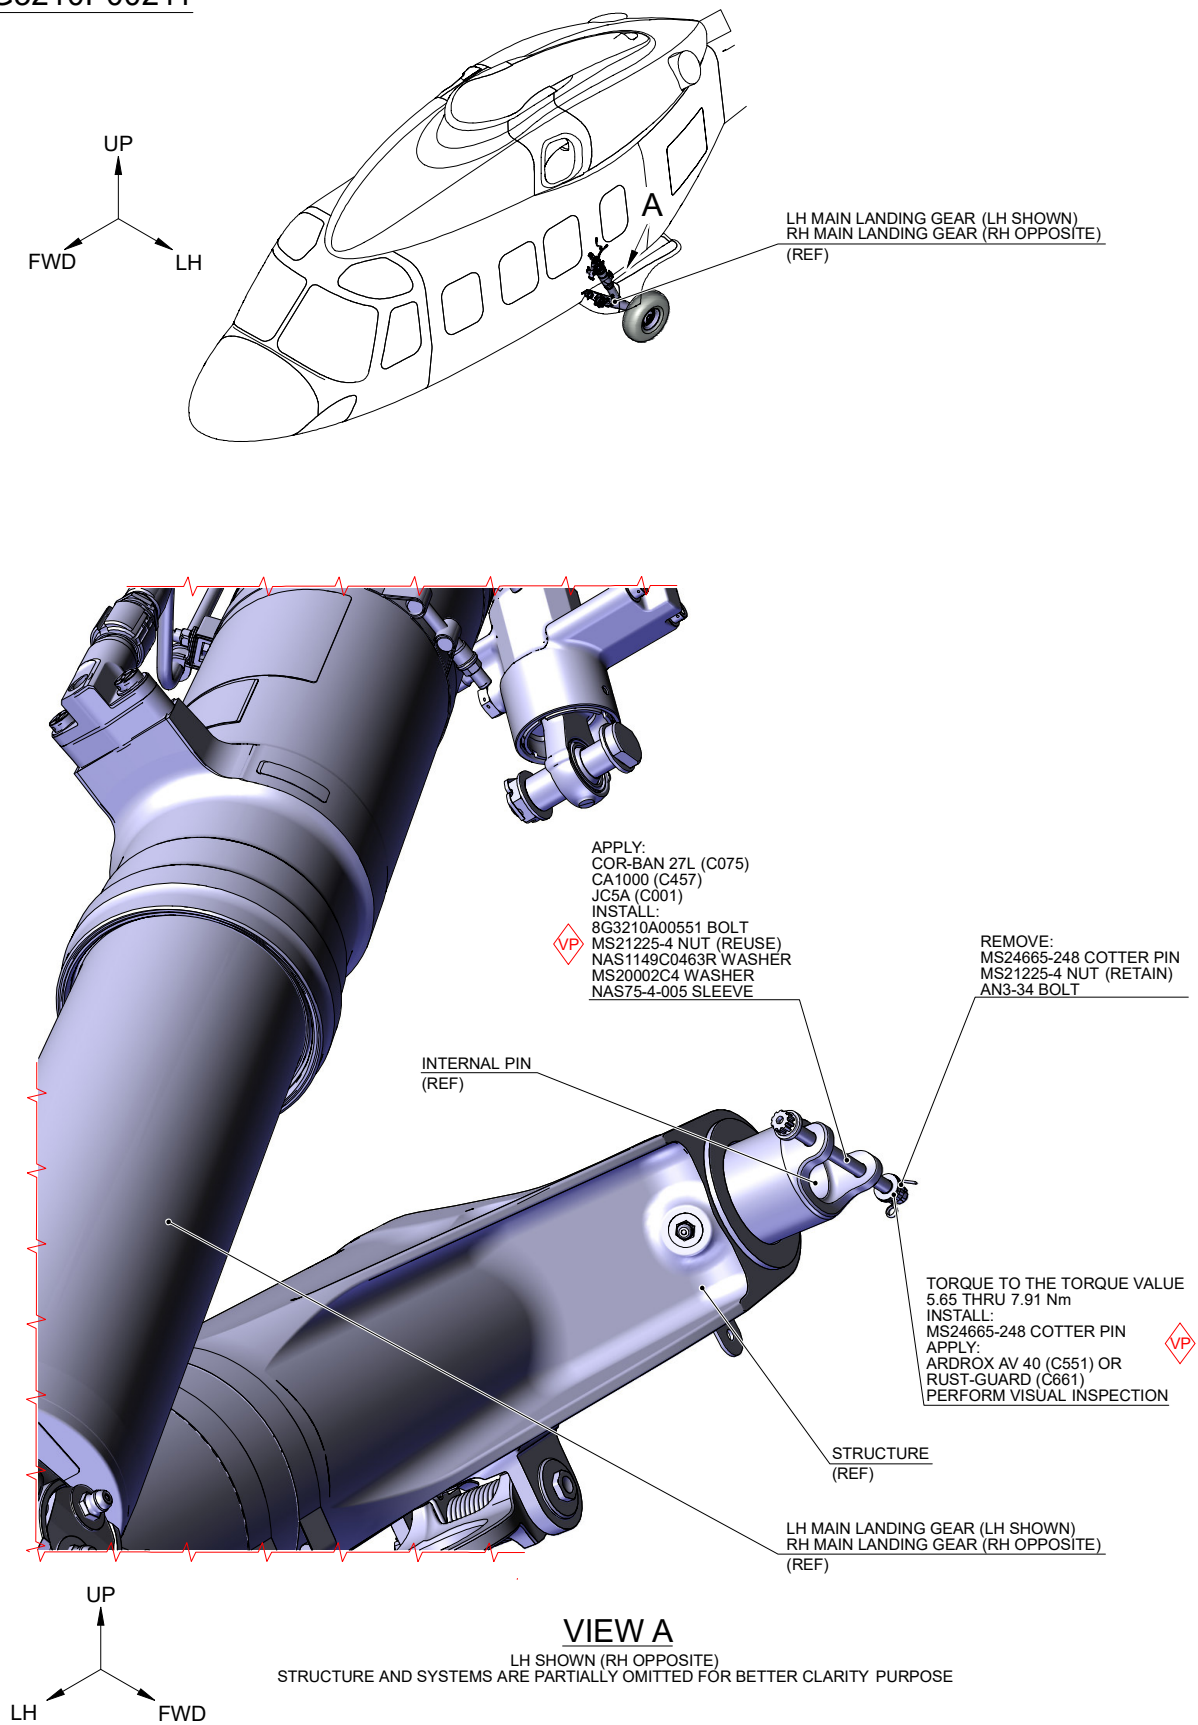

Figure 1
2. In accordance with AMP DM 89-A-00-20-00-00A-120A-A and with reference to Figure 1, gain access to the area affected and perform the “MLG bolt trailing arm retromod” P/N 8G3210P00211 as described in the following procedure:
- 2.1 With reference to Figure 1 view A and in accordance with the applicable steps of AMP DM 89-A-32-11-01-00A-520A-A, remove the cotter pin P/N MS24665-248, the nut P/N MS21225-4 and the bolt P/N AN3-34 from the LH MLG. Discard the bolt P/N AN3-34 and keep nut P/N MS21225-4 for further use.
- 2.2 With reference to Figure 1 view A and in accordance with AMP DM 89-A-32-11-01-00A-720A-A, perform the following procedure:
- 2.2.1 With reference to Figure 1, apply the corrosion preventive compound Cor-ban 27L (C075) or the corrosion inhibitive compound CA1000 (C457) or the corrosion preventive compound JC5A (C001) under the head of the bolt P/N 8G3210A00551.
- 2.2.2 With reference to Figure 1 view A, install the bolt P/N 8G3210A00551, the sleeve P/N NAS75-4-005, the washer P/N MS20002C4, the washer P/N NAS1149C0463R and the existing nut P/N MS21225-4 that attach the internal pin to the structure.
- 2.2.3 With reference to Figure 1 view A, tighten the nut P/N MS21225-4 to 5.65 thru 7.91 Nm (50 thru 70 lbf in). Install the new cotter pin P/N MS24665-248.
- 2.2.4 With reference to Figure 1 view A, apply the corrosion inhibitor Ardrox Av40 (C551) or corrosion inhibitor (C661) to the exposed surface of the hardware previously installed.
- 2.3 With reference to Figure 1 view A and in accordance with the applicable steps of AMP DM 89-A-32-12-01-00A-520A-A, remove the cotter pin P/N MS24665-248, the nut P/N MS21225-4 and the bolt P/N AN3-34 from the RH MLG. Discard the bolt P/N AN3-34 and keep nut P/N MS21225-4 for further use
- 2.4 With reference to Figure 1 view A and in accordance with AMP DM 89-A-32-12-01-00A-720A-A, repeat Step 2.2 for the RH MLG.